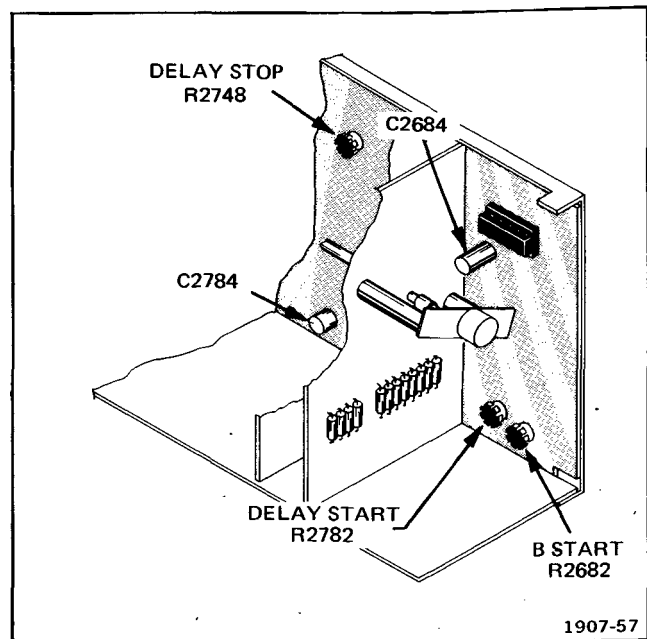

Fig. 6-5. Sweep adjustment locations.
- c. ADJUST—Delay Start, R2782 (see Fig. 6-5), so that second time mark is intensified.
- e. ADJUST—Delay Stop, R2748 (see Fig. 6-5), so that 10th time mark is intensified.
j. ADJUST—Delay Start, R2782 (see Fig. 6-5), so that second major time mark coincides with graticule center-line.
l. ADJUST—Delay Stop, R2748 (see Fig. 6-5), so that 10th major time mark coincides with graticule center-line.
d. **ADJUST—B Start R2682** (see Fig. 6-5) so that B sweep starts at graticule centerline. While changing **HORIZ DISPLAY** switch from A to **B DLY'D**, adjust **R2682** so that A and B sweeps start at same point.
c. **ADJUST—C2784** (see Fig. 6-5) for 1 time mark/division.
e. **ADJUST—C2684** (see Fig. 6-5) for 1 time mark/division.
i. **ADJUST—C2784** (see Fig. 6-5) so that time mark coincides with graticule centerline.